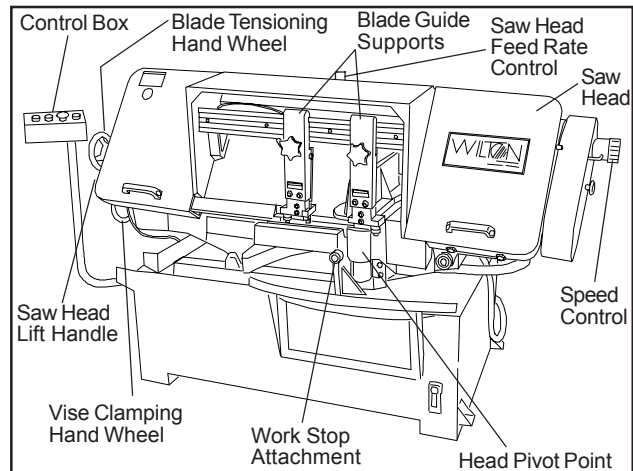

Figure 5: Controls
6. The rate at which the saw head moves downward is controlled by a hydraulic feed rate control located on the top, rear of the saw head (see figure 5).
3. To adjust the feed rate, adjust the feed rate control valve knob on top of the saw head (see figure 5).